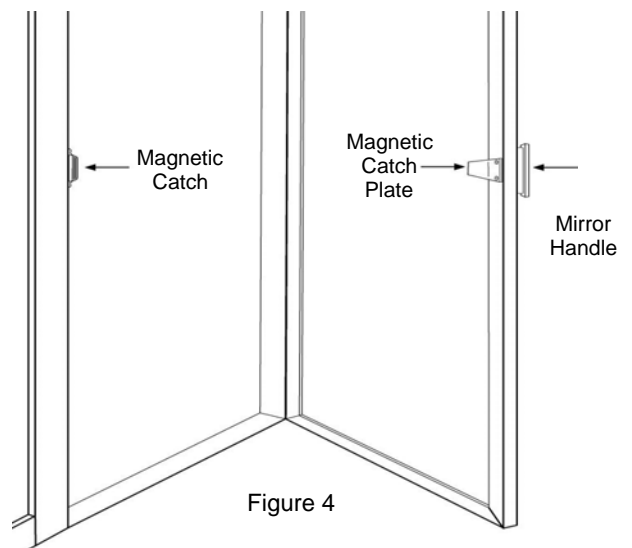

Figure 4
- B. Open the door. On the back of the door's Aluminum Frame Mold (#3), immediately behind the Mirror Handle (#2), align the bent end of the Magnetic Catch Plate (#5). Refer to the IPB drawing for assistance. Use a 7/64 Drill Bit to very carefully drill two holes through the Magnetic Catch Plate (#5) and into the Aluminum Frame Mold (#3). Secure the Magnetic Catch Plate (#5) to the back of the Wardrobe Door (#1) with the two #6 x 1/4 PH SMS Screws (#9) (See Figure 4).